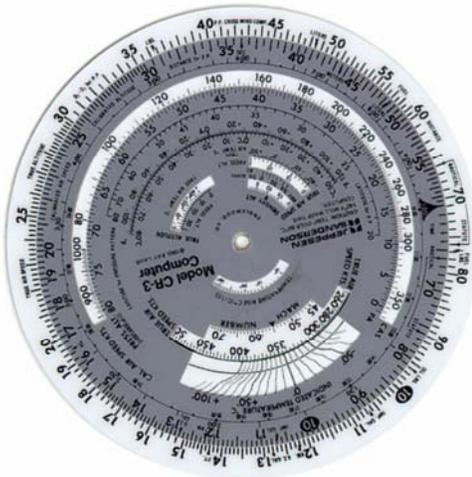

Figure 4.3-32 Fuel Conversion 5
2. Find 42.5 (425 Kts) on the DISTANCE (outer) scale and place it over 36 (3600 seconds) on the TIME (inner) scale. (Figure 4.3-32)